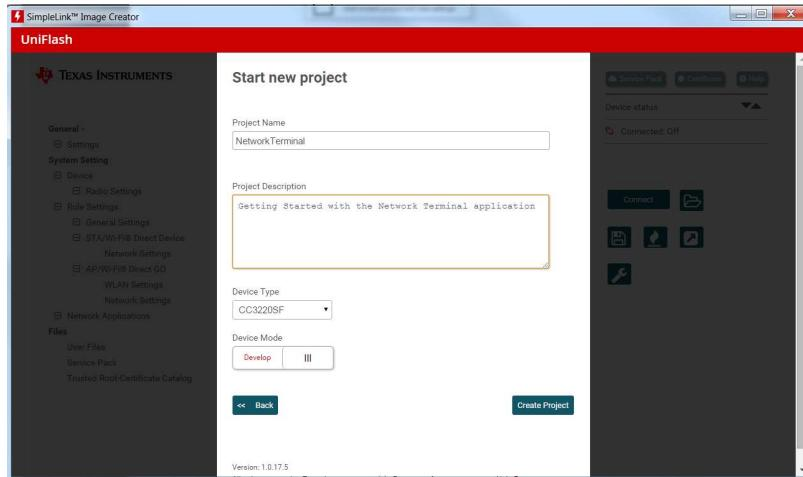

Figure 3-8. Create Project
5. Fill all the necessary fields properly. Make sure to select the correct device type (CC3220 for CC3220 and CC3220S device, CC3220SF for CC3220SF device) and click on Create Project, as shown in Figure 3-8.